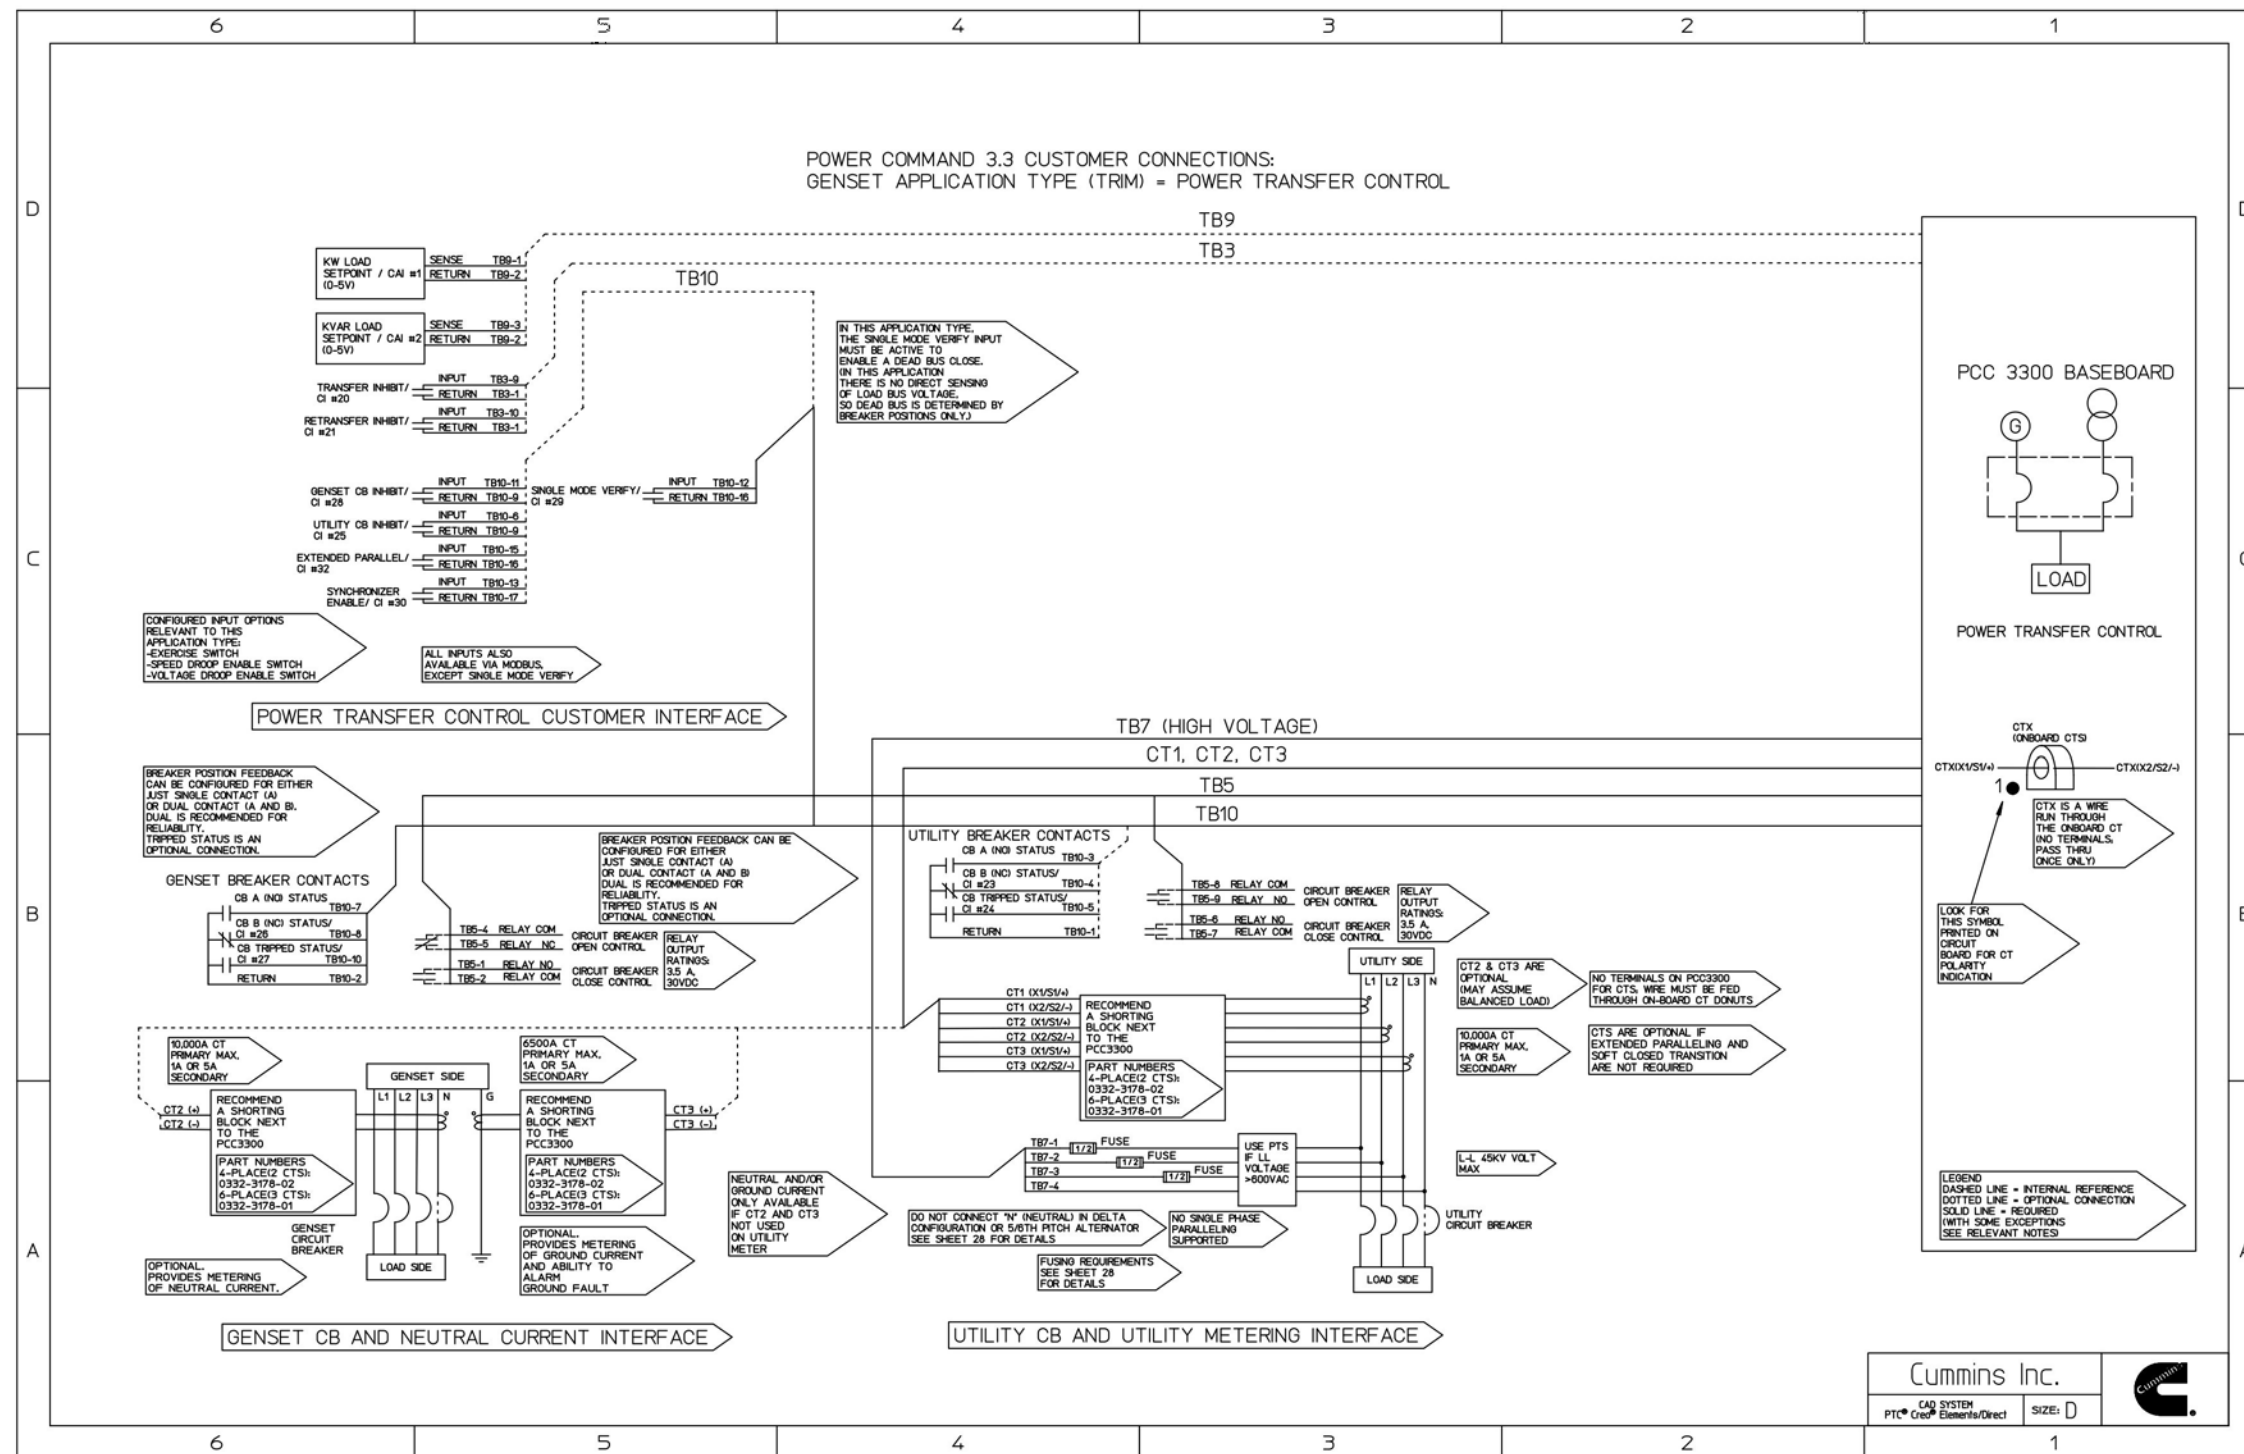

FIGURE 59. POWERCOMMAND 3.3 PARALLELING CONNECTIONS - POWER TRANSFER CONTROL
- Figure 59. PowerCommand 3.3 Paralleling Connections - Power Transfer Control 122